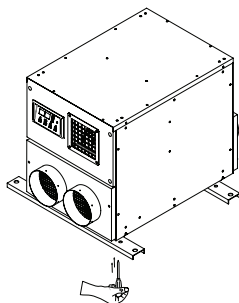

Figure 17 - hanging assembly attachment
4. Use screw (enclosed inside of box with hanging kit) to install as shown in Figure 17.